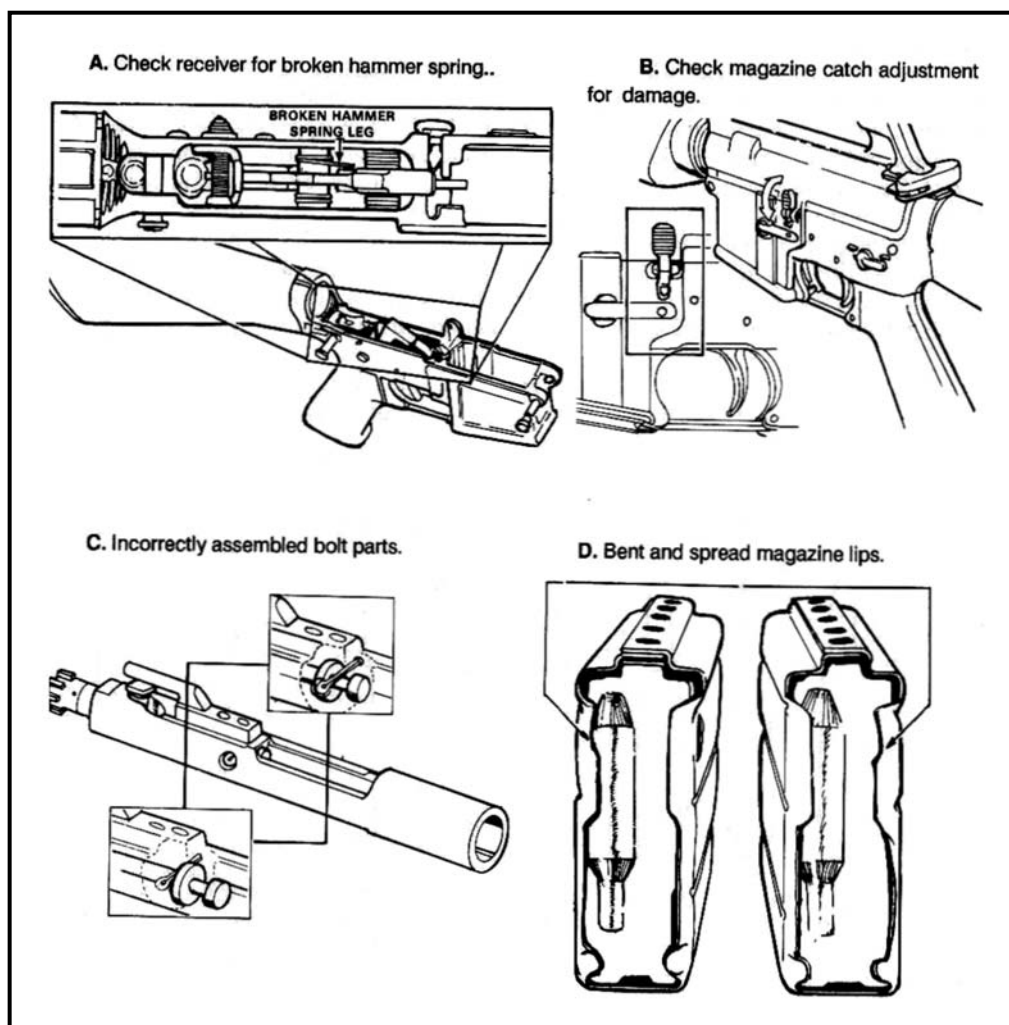

Figure 3-3. Other possible malfunctions.
(1) The bolt fails to remain in a rearward position after the last round in the magazine is fired. Check for a bad magazine or short recoil.
(2) The bolt fails to lock in the rearward position when the bolt catch has been engaged. Check bolt catch; turn in to unit armorer.
(3) The weapon fires two or more rounds when the trigger is pulled and the selection lever is in the SEMI position. This indicates a worn sear, cam, or disconnect. Turn in to armorer to repair and replace trigger group parts as required.
(4) The trigger fails to pull or return after release with the selector set in a firing position. This indicates that the trigger pin (A, Figure 3-3, page 3-6) has backed out of the receiver or the hammer spring is broken. Turn in to armorer to replace or repair.
(5) The magazine fails to lock into the magazine well (B, Figure 3-3). Check the magazine and magazine catch for damage. Turn in to armorer to adjust the catch; replace as required.
(6) Any part of the bolt carrier group fails to function (C, Figure 3-3). Check for incorrect assembly of components. Correctly clean and assemble the bolt carrier group, or replace damaged parts.
(7) The ammunition fails to feed from the magazine (D, Figure 3-3). Check for damaged magazine. A damaged magazine could cause repeated feeding failures and should be turned in to the armorer or exchanged.